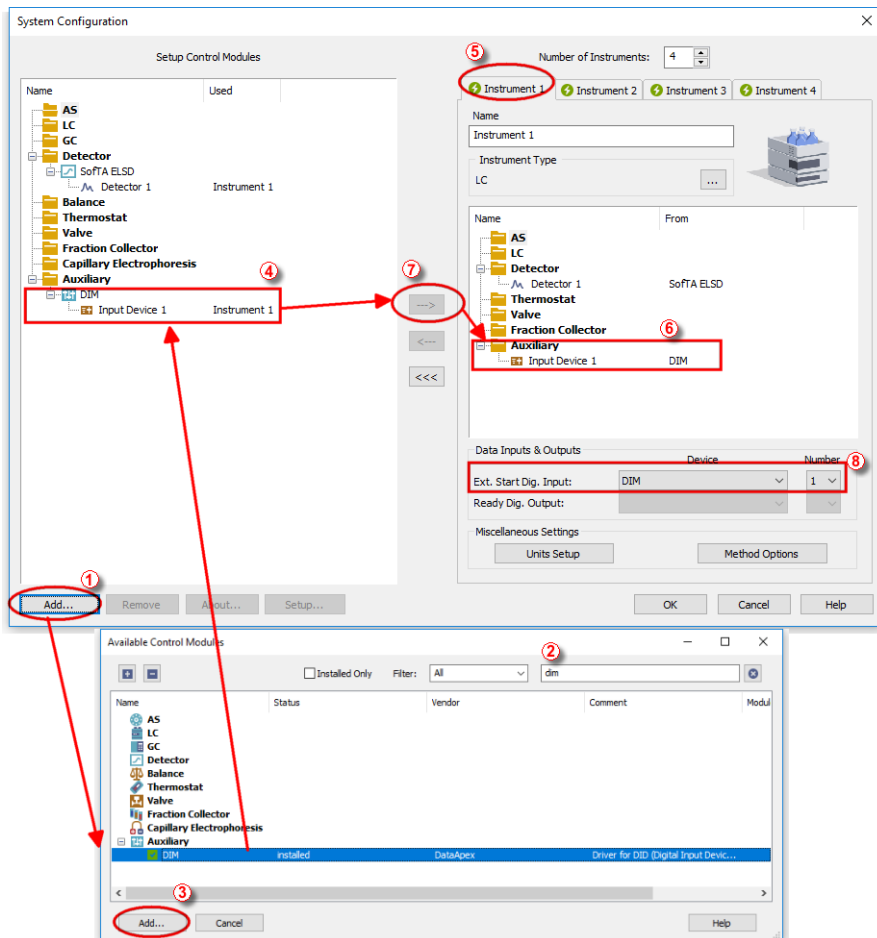

Fig. 3: System Configuration
- Press the *Add* button ① (See Fig. 3 on pg. 3.) to invoke the *Available Control Modules* dialog.
- You can specify the searching filter ② to simplify the finding of the driver.
- Select the **DIM** item in the *Auxiliary* section and press the *Add* ③ button.